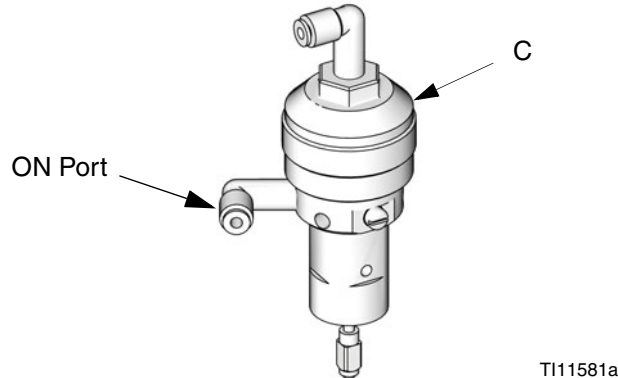

FIG. 5. Dispense Valve Cap
2. Disconnect the fluid line from the valve adapter (17).
3. Disconnect the air lines from the valve (19).
4. Unscrew the cap (C) to remove spring pressure on the valve. See FIG. 5.